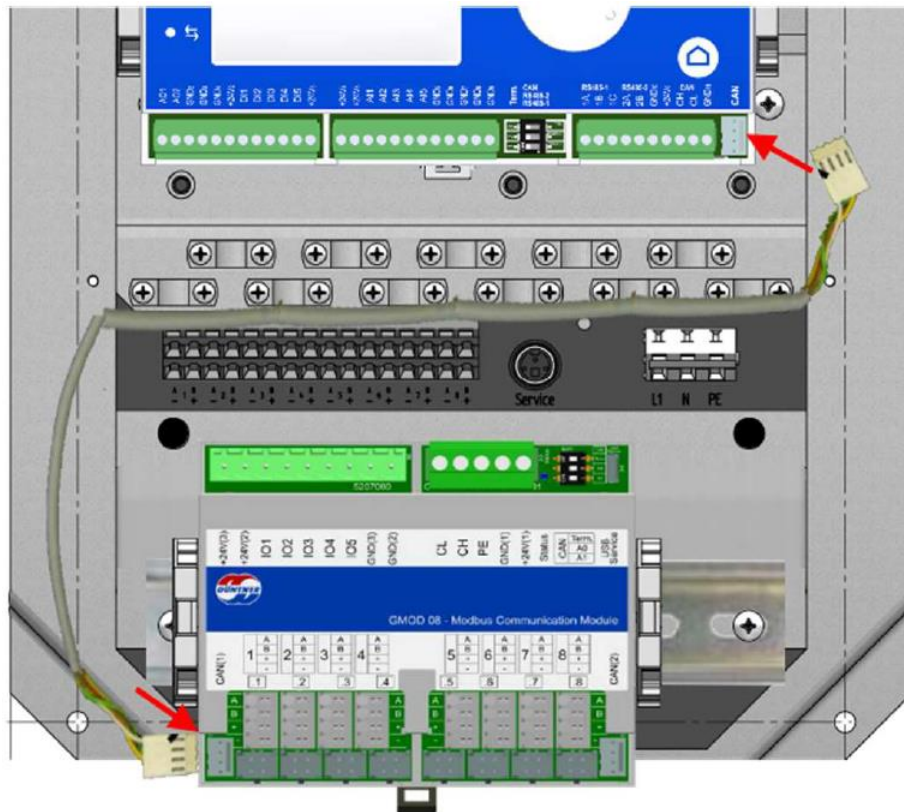

Figure 17: Connection between GMMnext and module GMOD 08.
- To ensure the communication between the modules, use the supplied 4-pin cable to connect both devices. One end of the cable goes to the lower right side of the GMMnext and the other one is connected to the lower left side of the GMOD 08, as in Figure 17.